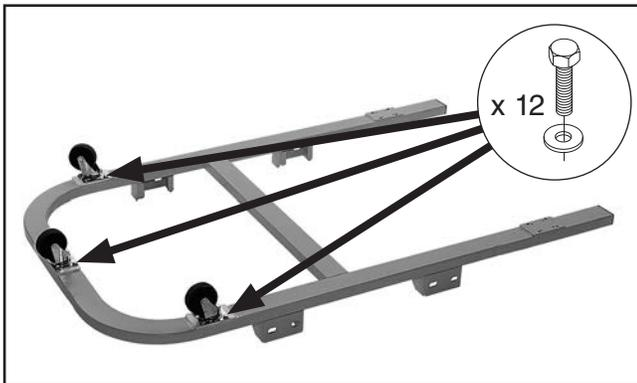

Figure 9. Non-locking swivel casters installed.
1. Install (3) 3" non-locking swivel casters to base stand using (12) $\frac{1}{4}$ "-20 x $\frac{3}{4}$ " hex bolts and (12) $\frac{1}{4}$ " flat washers (see **Figure 9**).